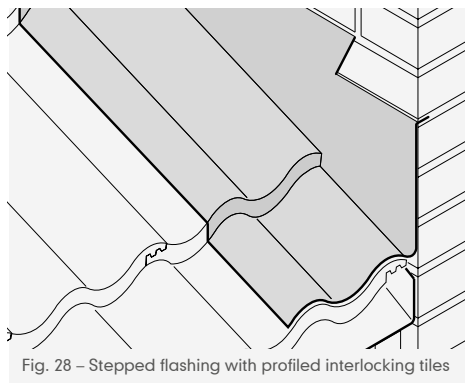

Fig. 28 – Stepped flashing with profiled interlocking tiles
- 7 Dress cover flashing as tightly as possible to tile profile (Fig. 28).